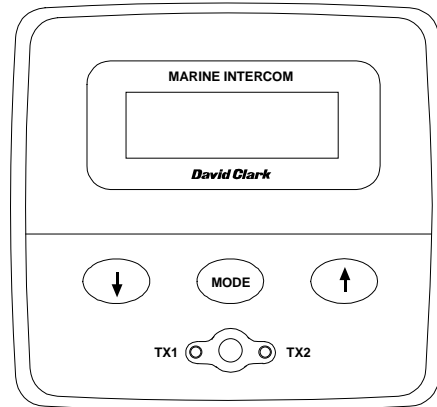

Figure 19: Panel Display Control
- q If a U9810BS or U9811BS is used, connect the Headset to the Body PTT Switch and to the System Cable, align keyways on each connector and push together. To disconnect just pull apart. Do not twist. See **Figure 19**.